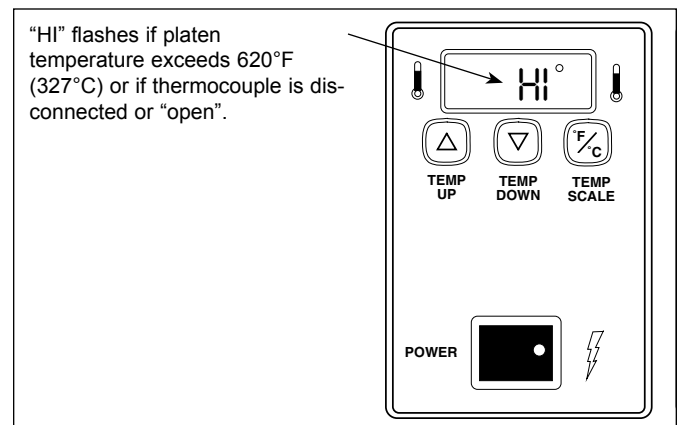

Figure 7. "HI" Fault Message
- If the platen thermocouple is disconnected or “open”, the display will flash “HI” (Figure 7). The platen thermocouple must be reattached or replaced.
- If the platen heater temperature exceeds 620°F (327°C) the display will flash “HI” (Figure 7). After the toaster has cooled down, the unit must be turned off, then back on to restart. If this condition repeats, contact your Roundup Authorized Service Agency.